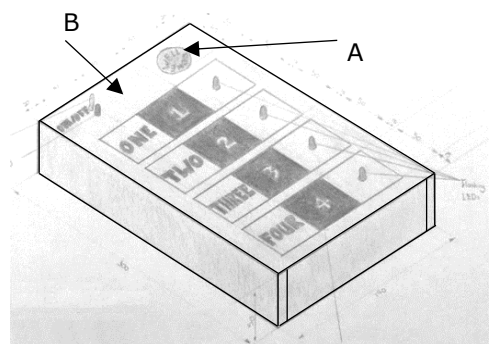

Figure 4
13. Figure 4 shows a sketch of a puzzle game for toddlers being submitted for amendments before manufacturing. The game is played by placing the correct cube having the correct initial letter, next to the correct picture. For each correct answer, an LED is lit and when all answers are answered correctly, a disc (A) showing a well-done note spins for few seconds.
- c. Mention **ONE** fastener that may be used to join the top face to the case of the game, knowing that the top face can be easily removed to access the inside of the game shown in figure 4.
- d. State **ONE** safety amendment/improvement you would make to the game case shown in figure 4 and give a **valid reason** for your answer.